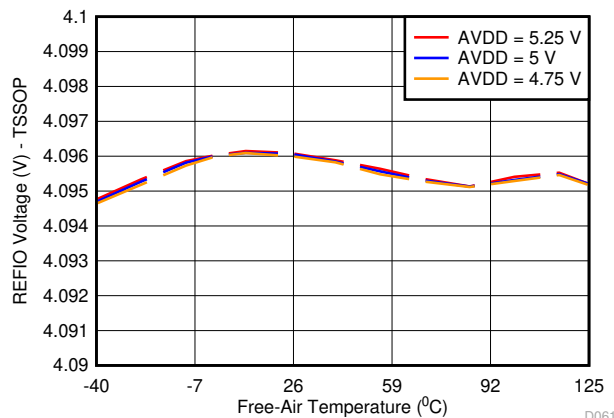

Figure 7-10. REFIO Voltage Variation Across AVDD and Temperature (PW Package)
The internal reference is also temperature compensated to provide excellent temperature drift over an extended industrial temperature range of -40°C to $+125^{\circ}\text{C}$. Figure 7-10 and Figure 7-11 show the variation of the internal reference voltage across temperature for different values of the AVDD supply voltage. The temperature drift of the internal reference is also a function of the package type. Figure 7-12 and Figure 7-13 show histogram distribution of the reference voltage drift for the TSSOP (PW) and WQFN (RUM) packages, respectively.